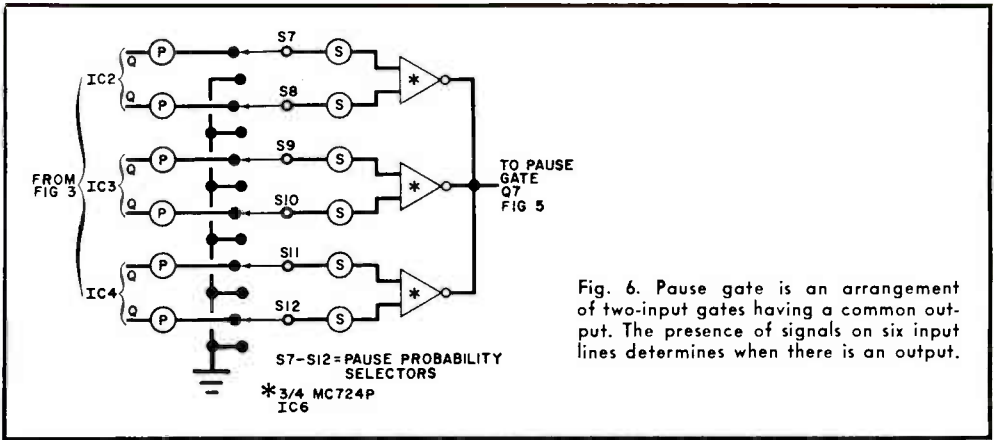

Fig. 6. Pause gate is an arrangement of two-input gates having a common output. The presence of signals on six input lines determines when there is an output.
**Pause Gate.** As shown in Fig. 6, the pause gate consists of three two-input gates (*IC6*) arranged so that a logic 1 on any input allows